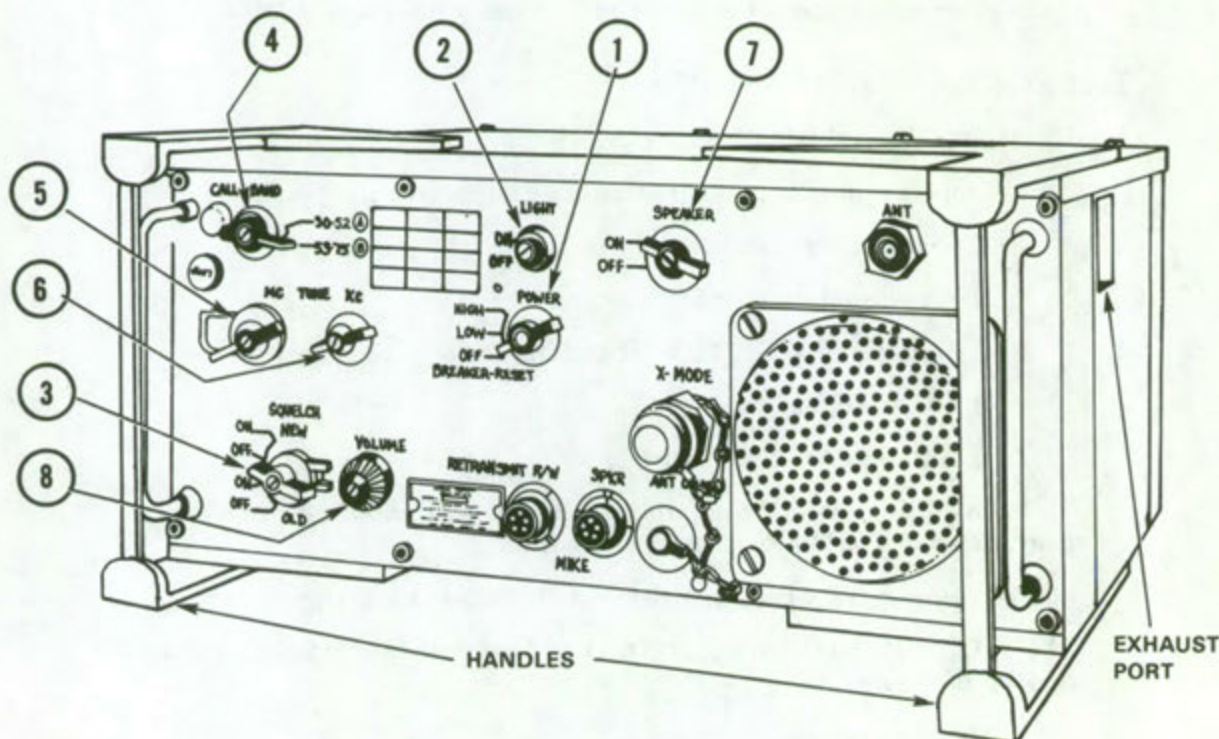

Figure 1. Receiver-transmitter, radio RT-524/VRC.
2. **To operate receiver-transmitter RT-524/VRC (figure 1).**
- b. The numbers within the steps below are keyed to the numbers in figure 1.
- (1) Set POWER switch (1) to LOW power position.
- (2) Set LIGHT switch (2) to ON position.
- (3) Set SQUELCH switch (3) to desired mode of operation (NEW - ON position).
- (4) Set BAND switch (4) to position of given operating frequency (A-Band).
- (5) Turn MHz control (5) to desired frequency.
- (6) Turn KHz control (6) to desired frequency.
- (7) Turn SPEAKER control (7) to ON.
- (8) Turn VOLUME control (8) to desired listening level.
- c. Make a radio check with the squelch switch (3) OFF.
- d. Turn BAND switch (4) to B-Band.
3. To operate AN/VRC-47 (figures 1 thru 6).
b. To operate the receiver-transmitter 524 (figure 1), refer to paragraphs 1 and 2 above.